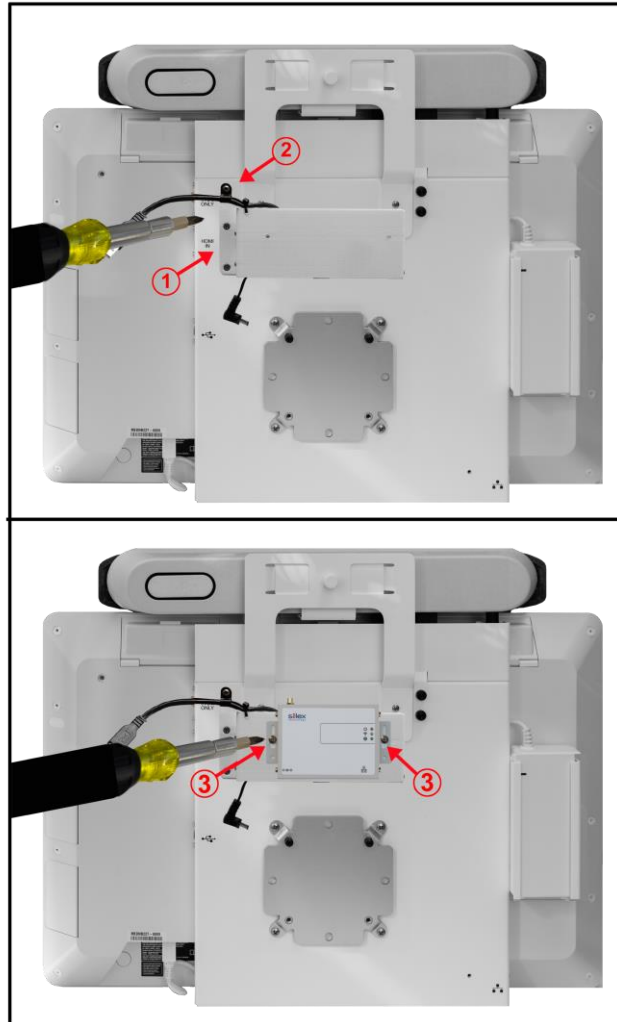

Figure 27. Attaching Silex Wireless Bridge
3. Attach the Aruba mounting plate to the bracket using the two supplied 6-32 3/8" Pan Head Screws which pass through the Aruba "Spring Clips" as shown in figure 27.